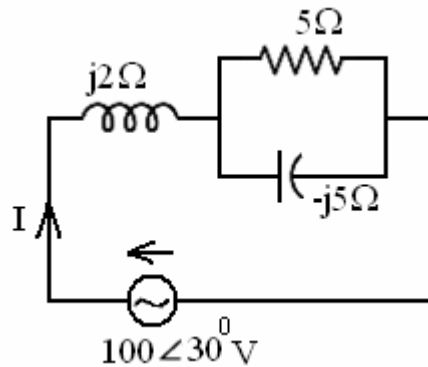

Figure 5
- b) Find the total impedance, total current and phase angle for the below circuit (shown in Figure 5). [7+8]